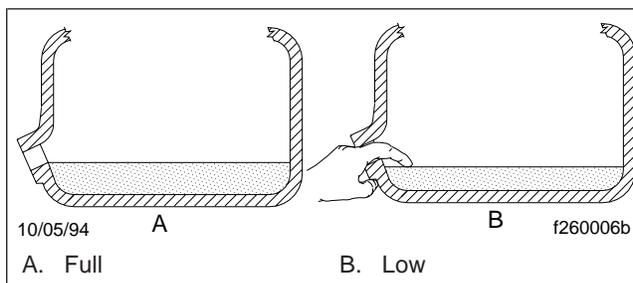

Fig. 1, Transmission Oil Level Checking
3. Check that the oil is level with the lower edge of the transmission fill opening. See **Fig. 1**.
1. Add fluid until it is level with the lower edge of the fill opening. See Fig. 1. If the transmission has two fill openings, add fluid to the level of both fill openings. See Table 1 for approved transmission lubricants, and Table 2 for lubricant capacities.